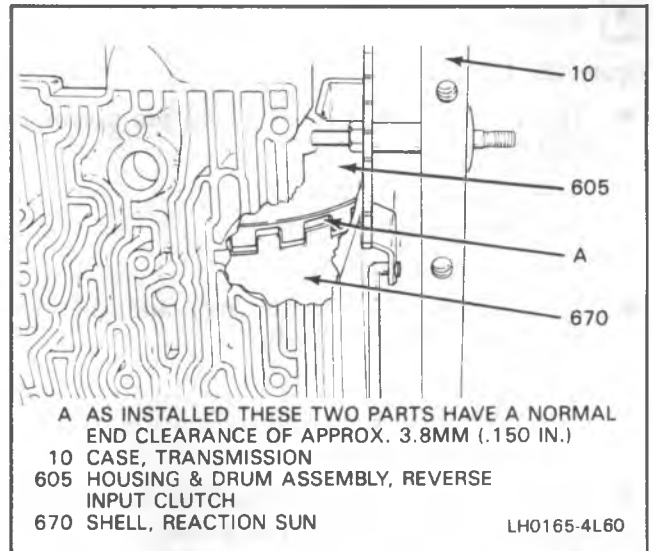
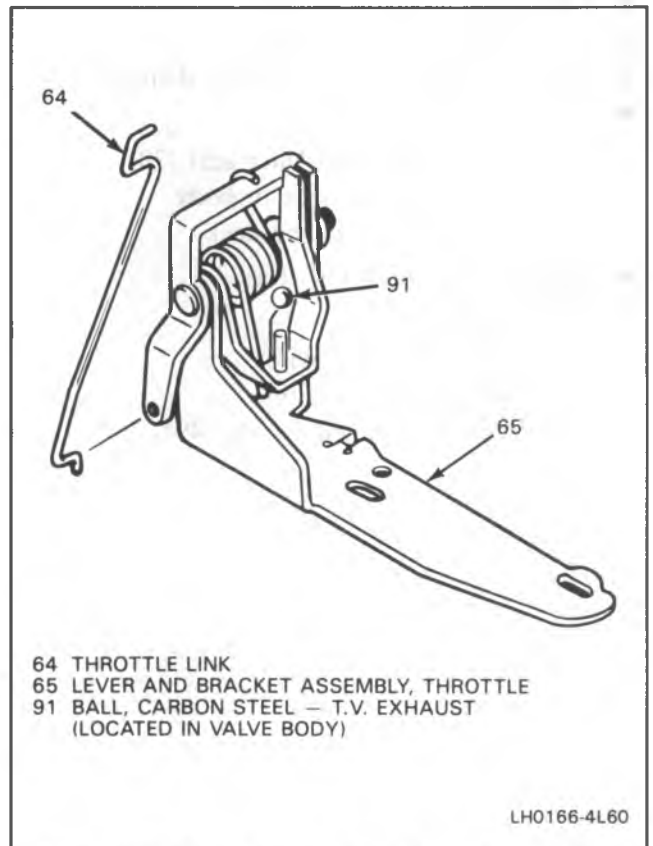

Figure 107 Clearance Between Reverse Input Clutch and the Sun Gear Shell
Figure 108 Throttle Lever and Bracket Assembly
- There should be clearance between the reverse input clutch and the reaction sun gear shell. This clearance can be observed at the point shown in Figure 108. **Do not** try to shim the internal parts because of this clearance (Figure 107).